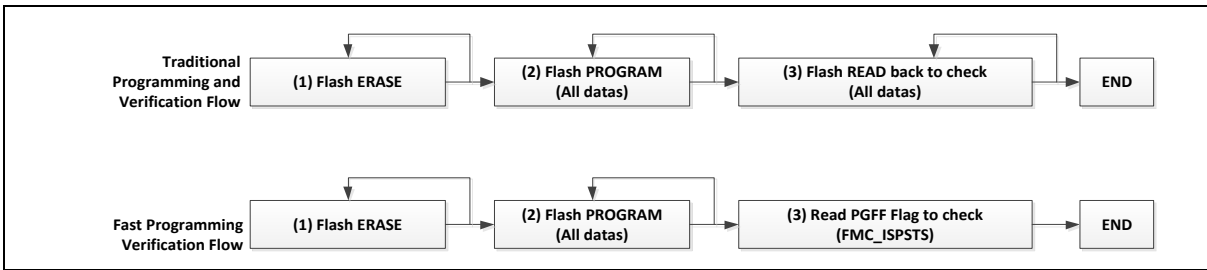

Figure 6.7-19 Verification Flow
In traditional Flash updated operation, the Flash memory has to perform three steps to complete the Flash memory updated procedure, (1) Flash ERASE (2) Flash PROGRAM (3) Flash READ back all of data to check the correction. In NuMicro® M2351 series, it only reads FMC\_ISPSTS to check PGFF flag in Step (3) without reading data back to confirm. Figure 6.7-19 compares traditional programming verification flow and fast programming verification flow.